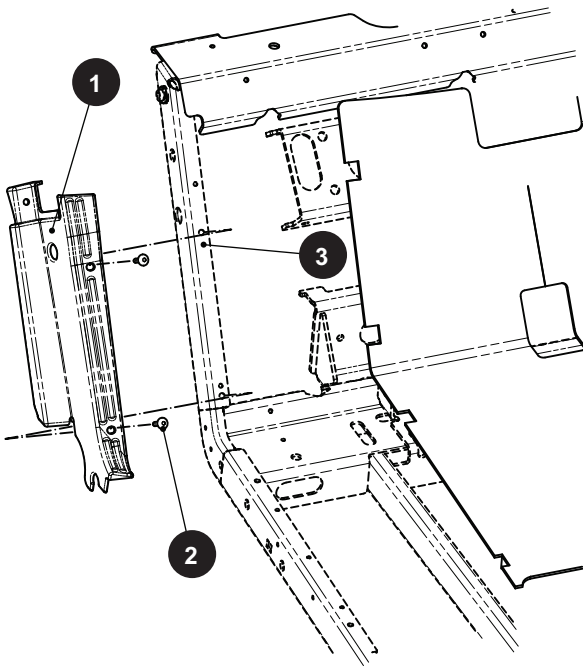

Fig. 4 Rocker Panel Replacement
3. Remove the screws (2) securing the rocker panels (1) to the chassis frame (3) (Ref. Fig. 4).
4. Remove rocker panels (1).